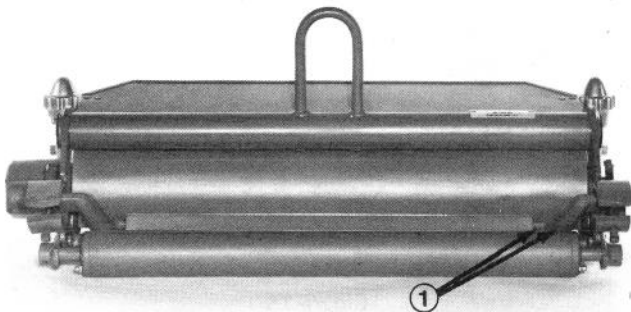

Figure 11
IMPORTANT: When reinstalling the bedbar assembly, be sure to position the center portion of the grass shield over the rear edge of the bedbar (Fig. 11). Securely seat the (2) bedbar pivot bolts to a maximum of 40 ft-lbs. Always recheck bearing adjustment after reassembling bedbar.